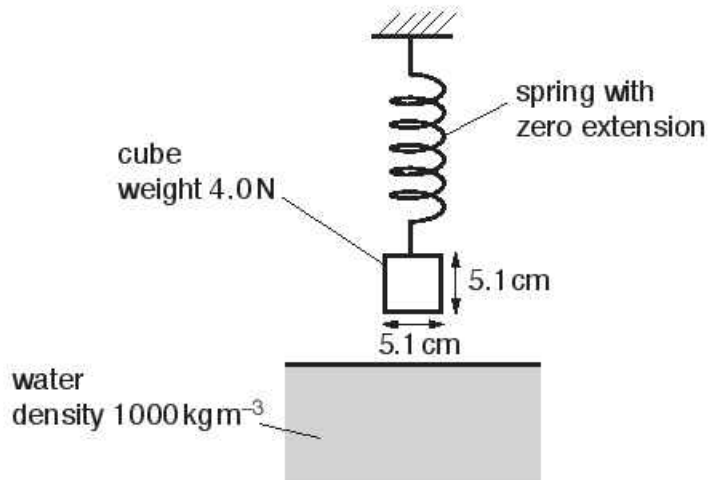

Fig. 3.1
- 25 A spring is attached at one end to a fixed point and hangs vertically with a cube attached to the other end. The cube is initially held so that the spring has zero extension, as shown in Fig. 3.1.